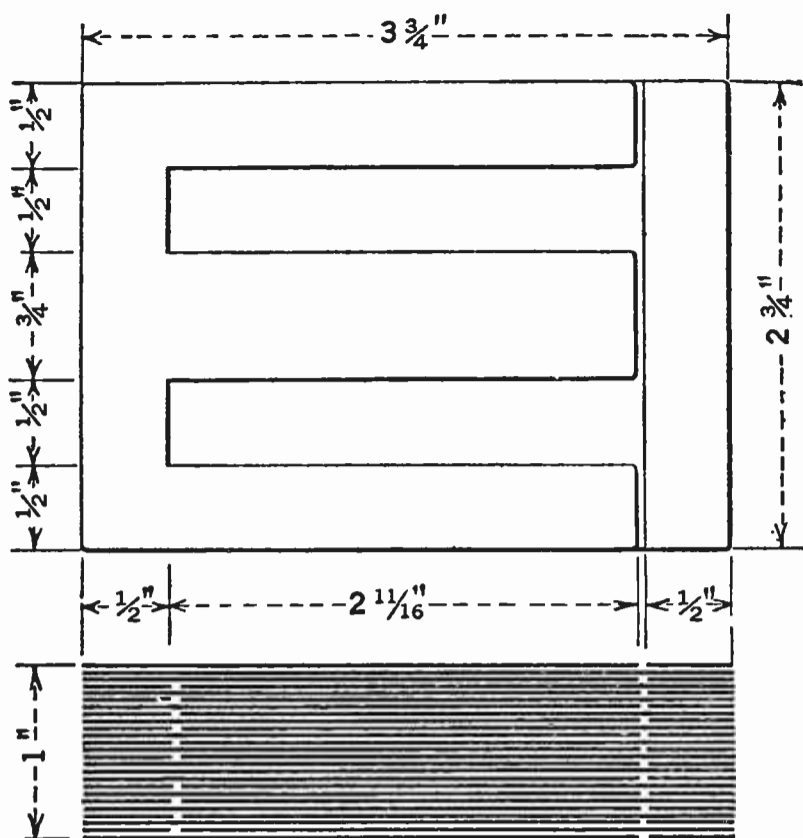
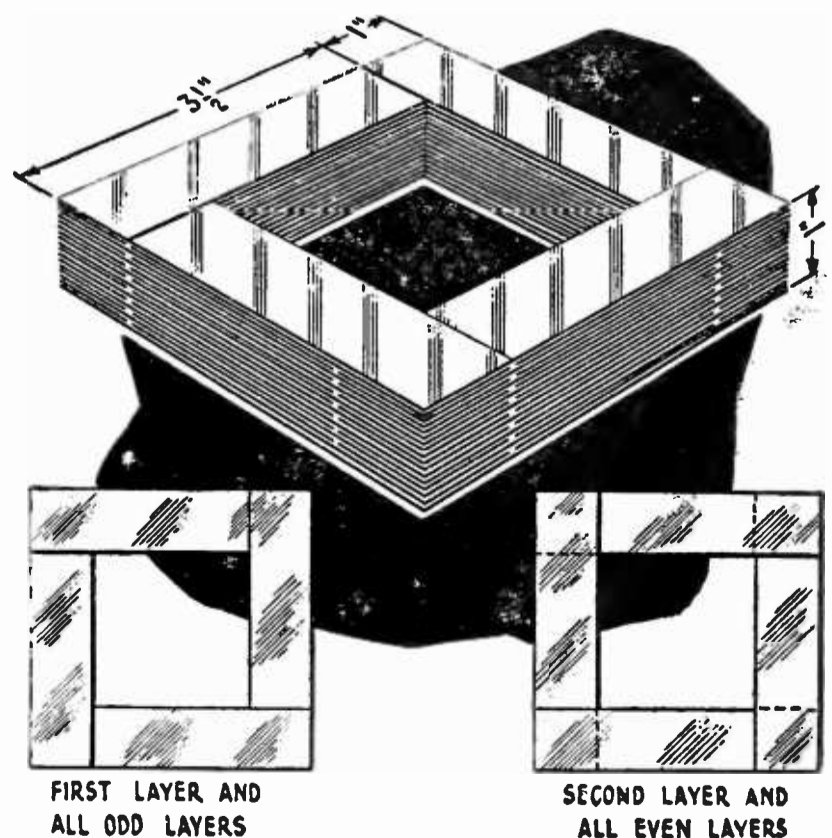

FIG. 5
FIG. 6
**T**HE transformer and choke coils are cut from silicon steel sheets or from ten to seventeen mils (thousandths of an inch) in thickness. Fig. 5 gives the shape and dimensions of the toy transformer core recommended in the previous article. As it is almost impossible to cut such shape laminations by hand, the type of core illustrated in Fig. 6 may be used. The sectional area of the magnetic circuit of the manufactured core (Fig. 5) is .75 square inches, but if a home-cut core of the type illustrated in Fig. 6 is used, the sectional area had better be one square inch. Each lamination should be given a thin coat of shellac and allowed to dry before assembling.